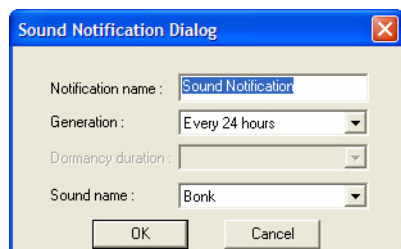

Figure 13-13: Configuring sound notification
- 1) From the AirMagnet Policy Notification List, check the Play Sound radio button. The Sound Notification dialog box appears. See Figure 13-13.